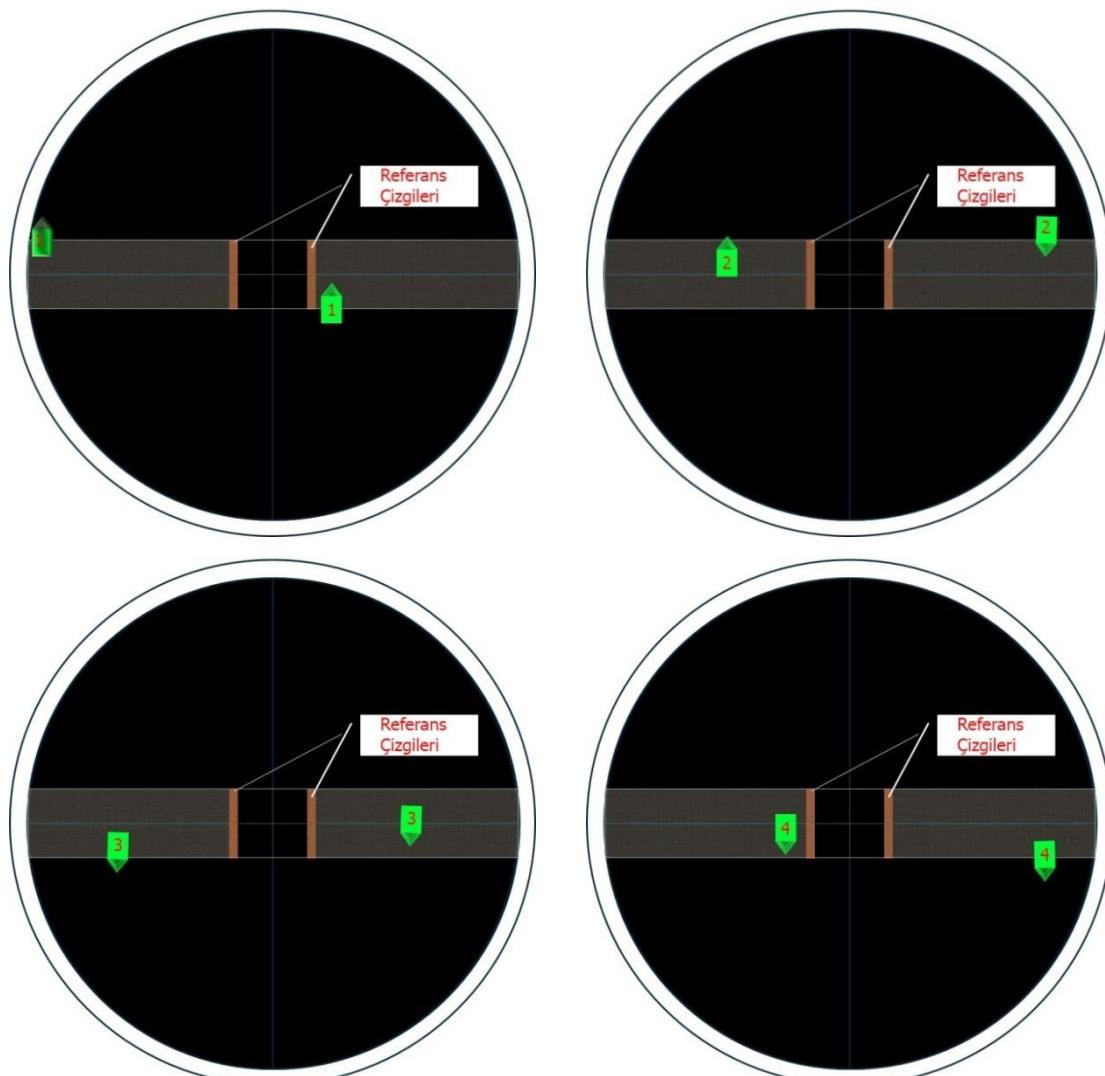

Figure 2.1: Robot Placement on the Dohyo
- a. Starting position: Robots may be positioned in any direction along the reference line (brown line) and parallel to the reference line (shaded area). It is important for competitors to note that part of the robot must be in contact with the reference line and parallel to it. Examples are given in Figures 2.1 and 2.2.